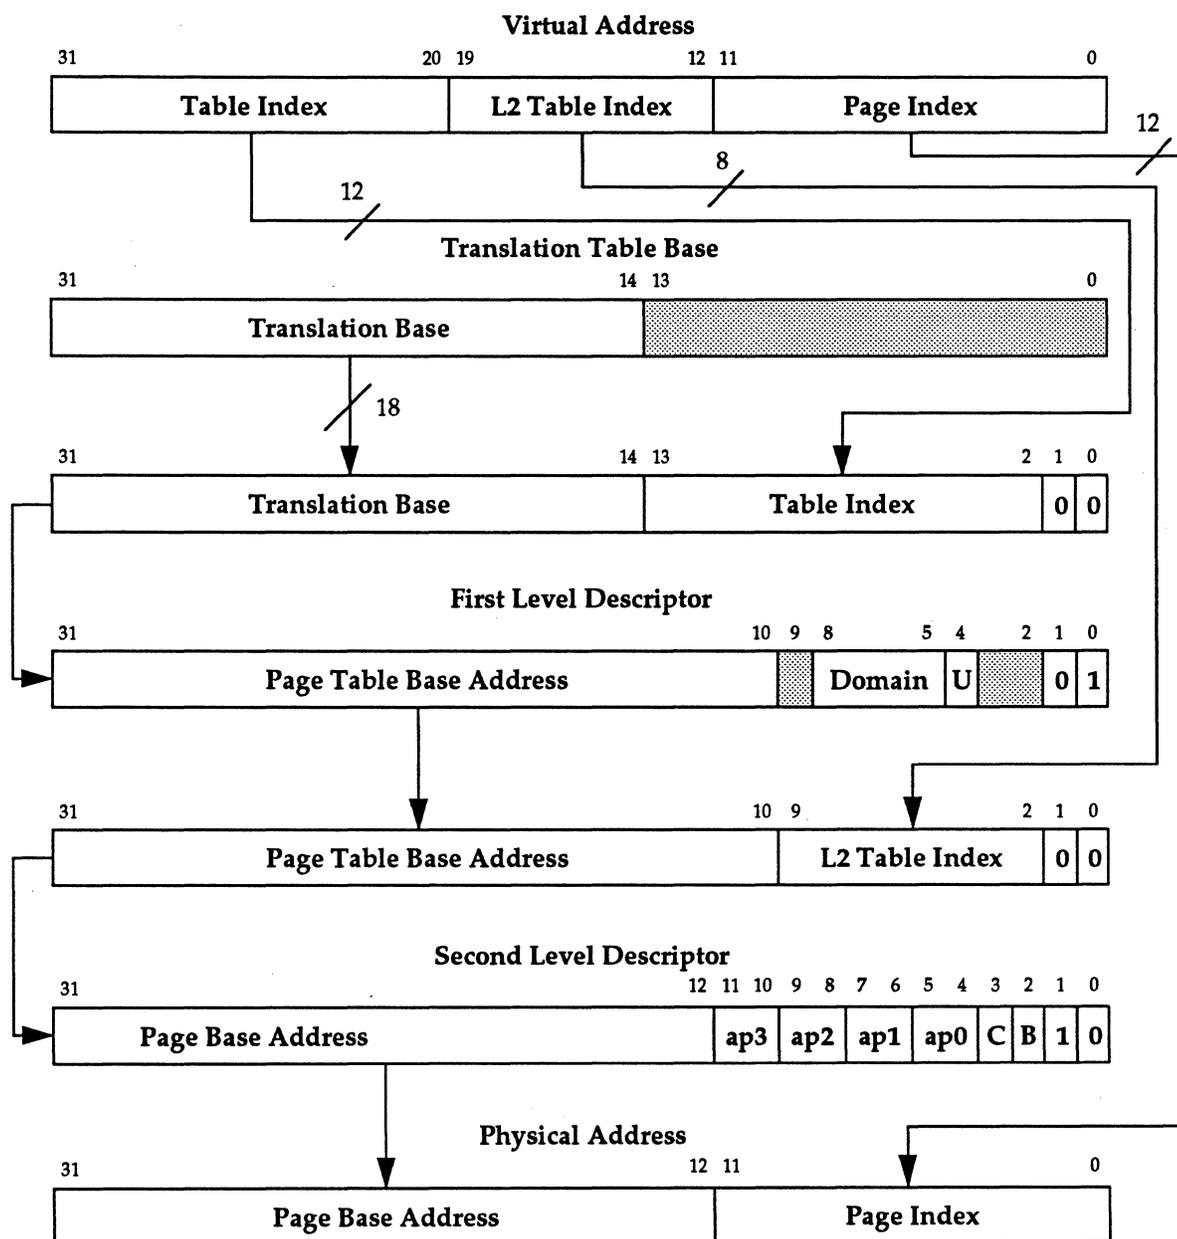
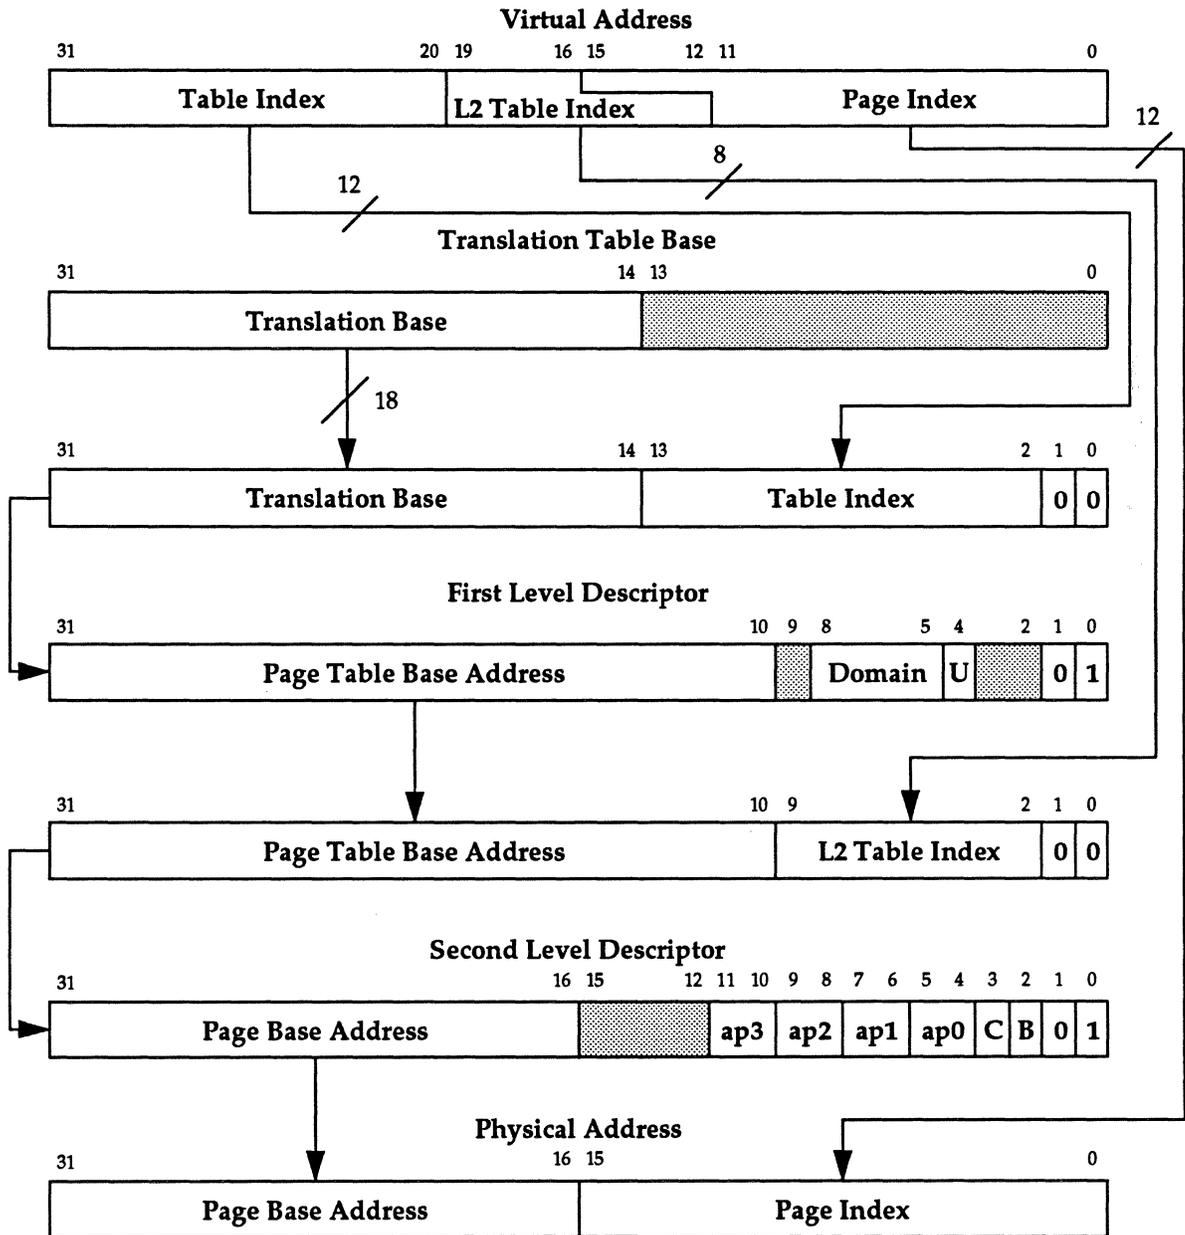

Figure 36: Small Page Translation
Figure 37: Large Page Translation
Bits 31:10 form the base for referencing the Page Table Entry. (The page table index for the entry is derived from the virtual address as illustrated in *Figure 36: Small Page Translation*).
If the Level One fetch returns a Page Table Descriptor, this provides the base address of the page table to be used. The page table is then accessed as described in *Figure 36: Small Page Translation*, and a Page Table Entry, or Level Two Descriptor, is returned. This in turn may define either a Small Page or a Large Page access. The figure below shows the format of Level Two Descriptors.
**Bits 31:12** (small pages) or **bits 31:16** (large pages) are used to form the corresponding bits of the physical address - the physical page number. (The page index is derived from the virtual address as illustrated in *Figure 36: Small Page Translation* and *Figure 37: Large Page Translation*).
Figure 36: *Small Page Translation* illustrates the complete translation sequence for a 4kB Small Page. Page translation involves one additional step beyond that of a section translation: the Level One descriptor is the Page Table descriptor, and this is used to point to the Level Two descriptor, or Page Table Entry. (Note that the access permissions are now contained in the Level Two descriptor and must be checked before the physical address is generated. The sequence for checking access permissions is described later).
Figure 37: *Large Page Translation* illustrates the complete translation sequence for a 64 kB Large Page. Note that since the upper four bits of the Page Index and low-order four bits of the Page Table index overlap, each Page Table Entry for a Large Page must be duplicated 16 times (in consecutive memory locations) in the Page Table.